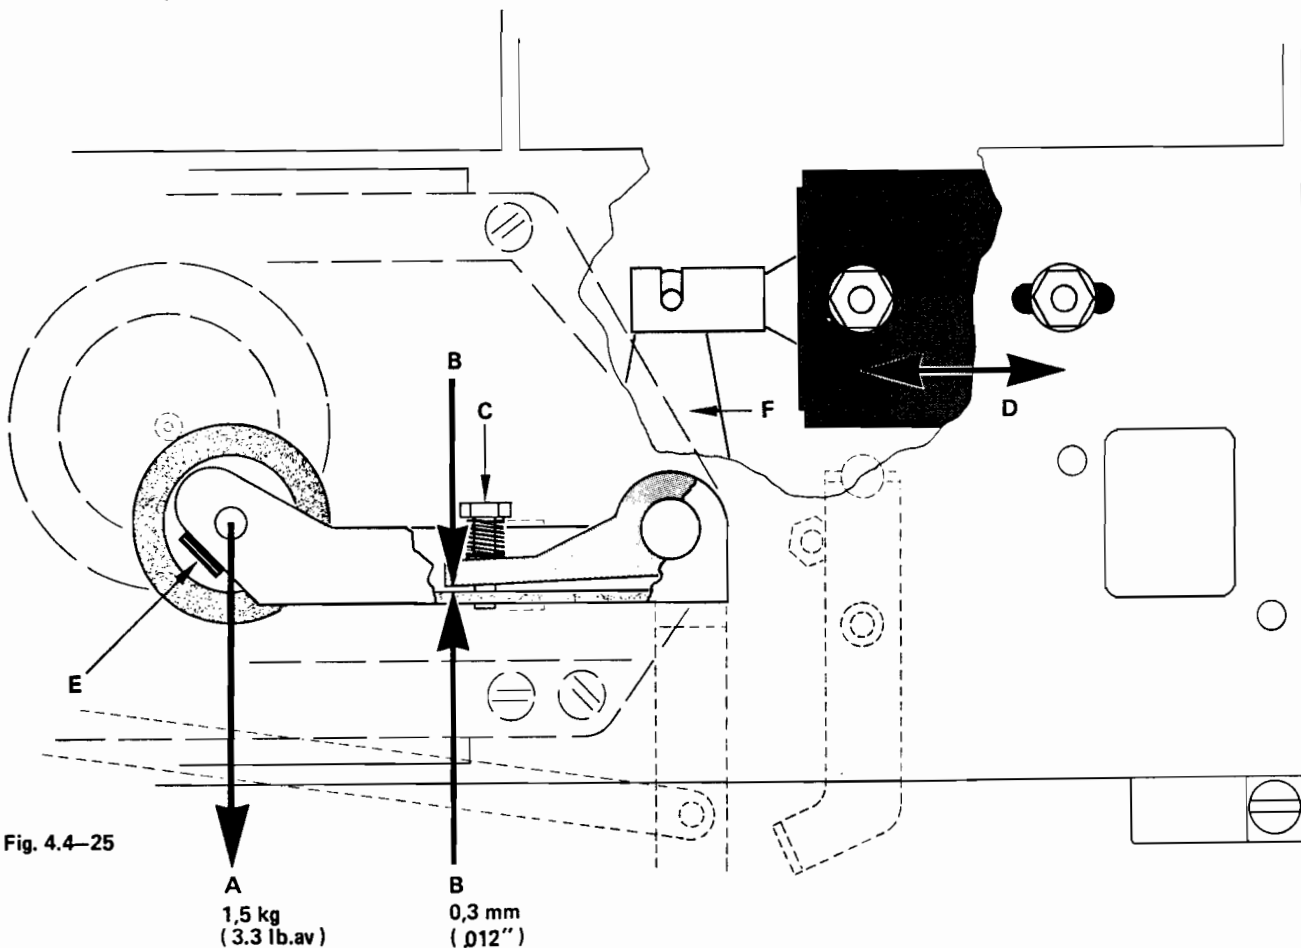

Fig. 4.4-25
- Slide pressure solenoid to the right gap B ( fig. 4.4-25 ) is .3 mm ( .012" )